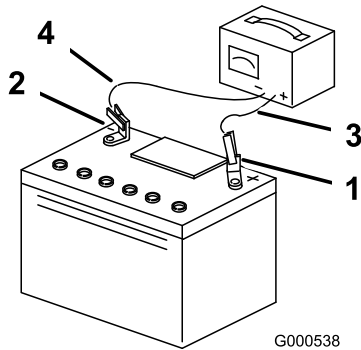

Figure 39
3. When the battery is fully charged, unplug the charger from the electrical outlet, then disconnect the charger leads from the battery posts (Figure 39).